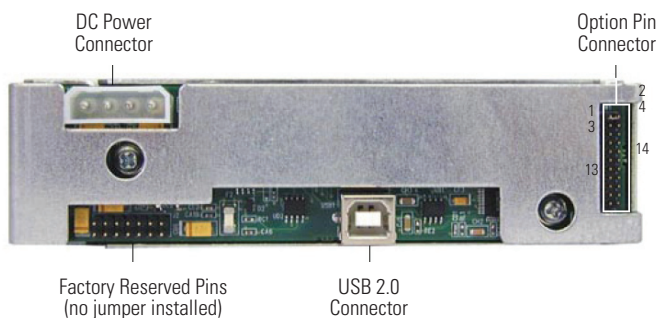

Figure 1: Receiving Frame Motherboard (rear view)
8. Connect the remaining end of the split USB cable to the DE110 USB connector located on the receiving frame motherboard (figure 1).
9. Connect the power cable from the DC power supply in the computer or expansion chassis to the power connector on the DE110 receiving frame. Refer to figure 1 for the DE110 receiving frame power connector location.